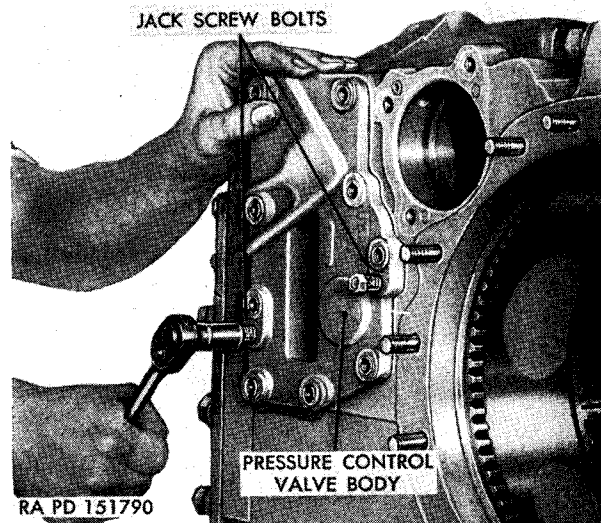
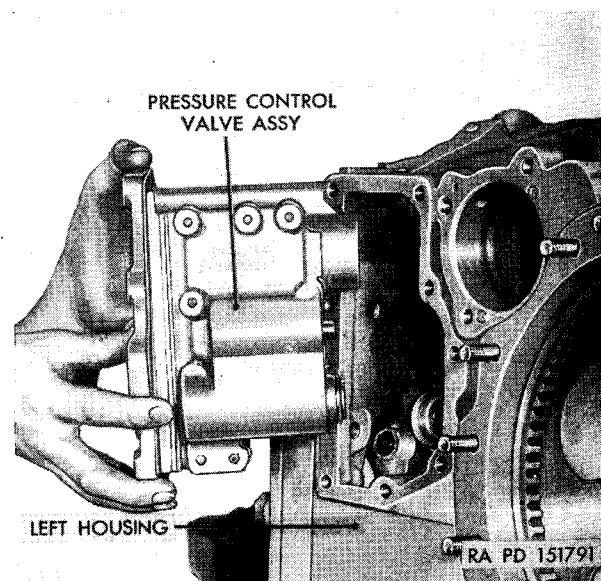

Figure 51. Separating pressure-control valve body from left housing using jack screws.
Figure 52. Removing pressure-control valve assembly.
- (2) *Pressure control valve assembly.* Remove nine bolts and washers, using a $\frac{1}{2}$ -inch wrench, from the valve body. Separate the valve body from the left housing, using two of the valve body bolts as jack screws (fig. 51). Remove the valve assembly and gasket (fig. 52). Keep the two jumper tubes with the valve assembly.